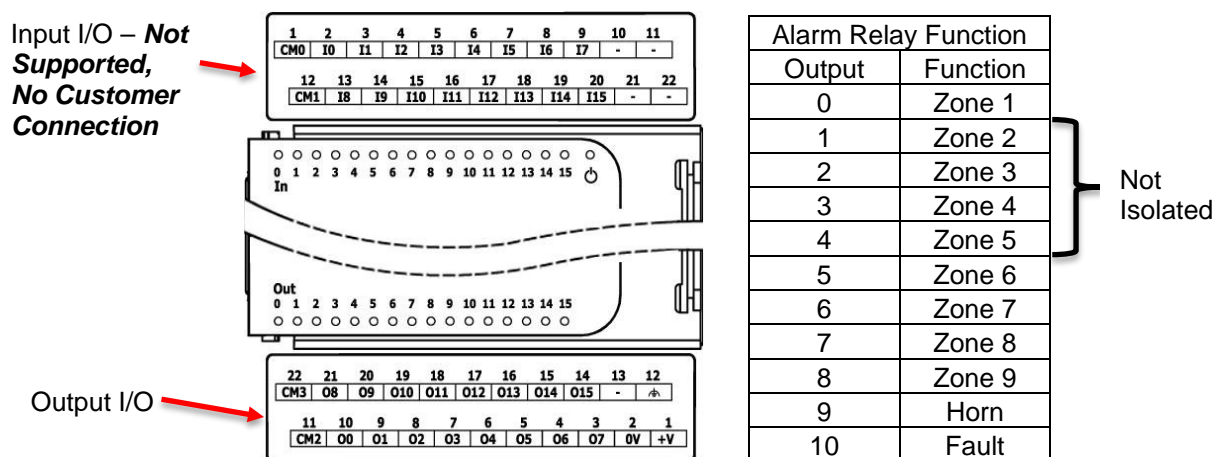

Figure 18. Connection Points
- The I/O connection points are arranged in two groups of eleven points each as shown in Figure 18.